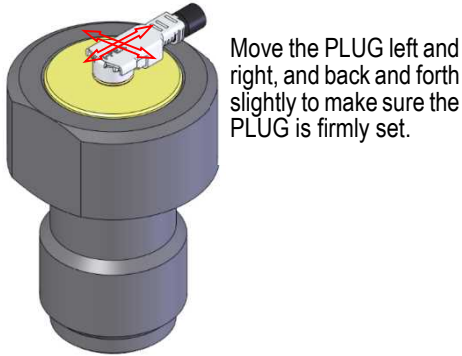

Fig. 3 ① Set the PLUG
- ① Set the PLUG on the mating portion of the inspection adapter. Move the PLUG left and right, and back and forth slightly as shown in Fig. 3 to make sure the PLUG is firmly set.